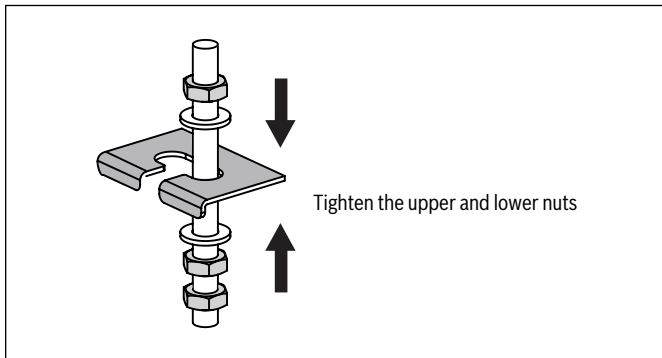

Figure 10
- e. Hang the cassette by fitting the mounting tabs onto the suspension bolts and secure the nuts (Figure 10). If the length of the hanger rod exceeds 59-1/16in (1.5m), two diagonal support rods must be added to enhance stability.